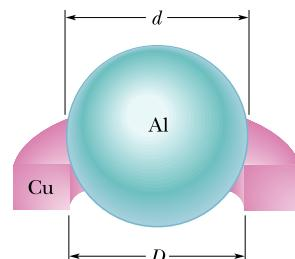

Figure 18.13 Problem 42.
**42 H GO** A 20.0 g copper ring at 0.00°C has an inner diameter of  $D = 2.54000$  cm. An aluminum sphere at 100.0°C has a diameter of  $d = 2.545\ 08$  cm. The sphere is put on top of the ring (Fig. 18.13), and the two are allowed to come to thermal equilibrium, with no heat lost to the surroundings. The sphere just passes through the ring at the equilibrium temperature. What is the mass of the sphere?